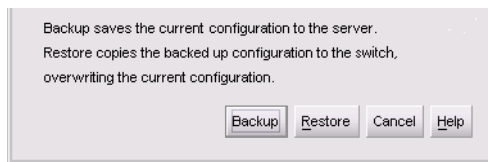

Figure 54: Backup and Restore Configuration dialog box
3. Choose **Maintenance > Backup & Restore Configuration**. The Backup and Restore Configuration dialog box displays (Figure 54).